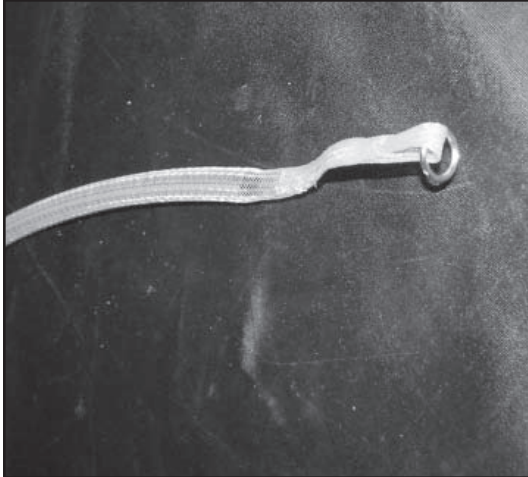

Figure 35
- J. Prior to installing any cable into Micro Duct it should be proofed for integrity using Air, Cable Grip and Proofing Balls. (Figure 35 and 36)